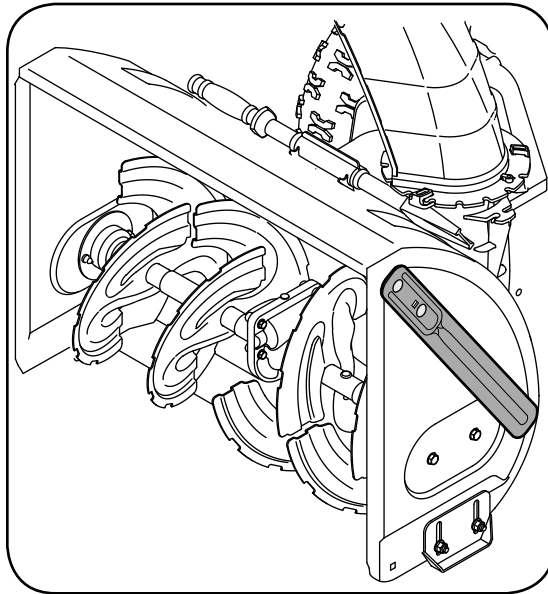

Figure 7
- On models so equipped, drift cutters are assembled to the auger housing inverted. See Figure 7.